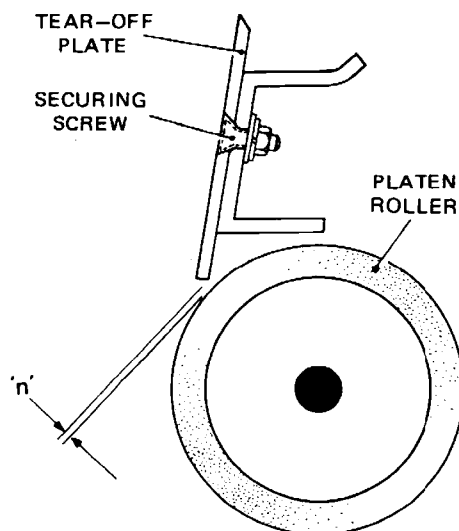

Fig. 4.14 TEAR-OFF PLATE (END VIEW)
- 16.1 Check that there is a clearance of 0.016–0.039 inch between the tear-off plate and the platen roller (dimension 'n' of Fig. 4.14).